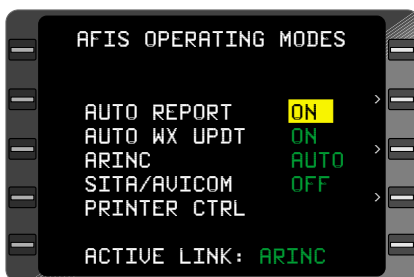

Figure 7-112
6. **ENT** Key - DEPRESS to turn **ON** the **AUTO REPORT** function. (Figure 7-112)